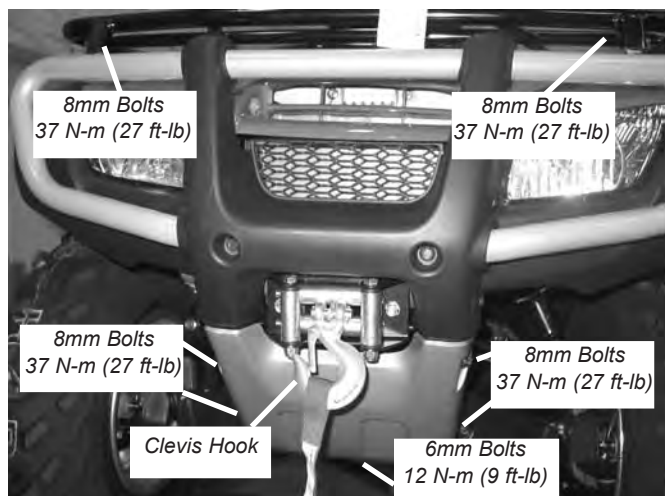
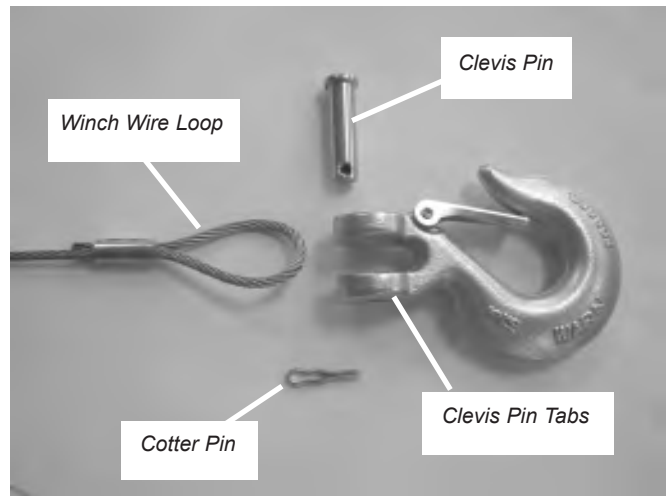

Figure 12 Completed Winch Installation on the Rubicon
Figure 13 Hook Assembly - Exploded View
16. Switch the winch clutch to freespool. Manually feed the winch cable through the roller fairlead. Attach the clevis hook, supplied with the winch, to the end cable loop as shown in figure 12. This is done by placing the winch wire loop between clevis pin tabs on hook. Insert clevis pin through clevis pin tabs and the winch wire loop. Insert cotter pin into clevis pin retaining hole, figure 13 and figure 14.
Winch and winch mount installation is now complete and should look like figure 12. Proceed to section IV, entitled “Winch Wiring”.